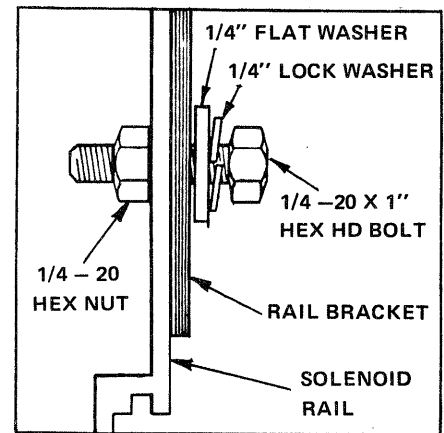

FIGURE 8-19 1/4-20 bolt installation.
Get the two (2) 1/4-20 x 1" Hex Hd. Bolts and slip a 1/4" Lock Washer and 1/4" Flat Washer on each bolt, then insert a bolt through each 9/32" hole. Thread a 1/4" Hex Nut on each bolt and tighten them down all the way. See FIGURE 8-19. THOROUGHLY vacuum the interior of the piano to remove ALL metal particles.